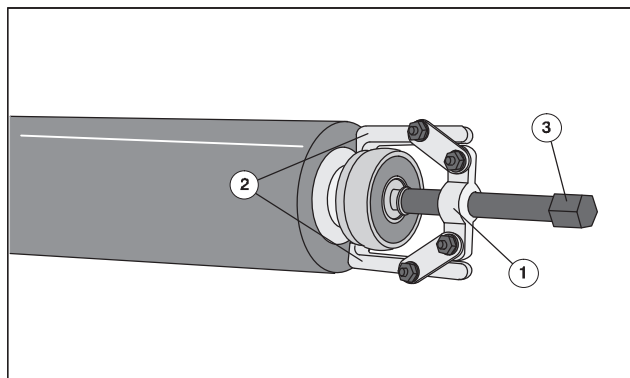

Fig. 80 Pulling off the ball bearings
An **extractor** (Fig. 80/1) is provided for pulling off the ball bearings.
1. Attach the claws of the extractor to the ball bearing (Fig. 80/2).
2. By turning the hexagon (Fig. 80/3) with a fork wrench, pull the ball bearing off the roller journal.